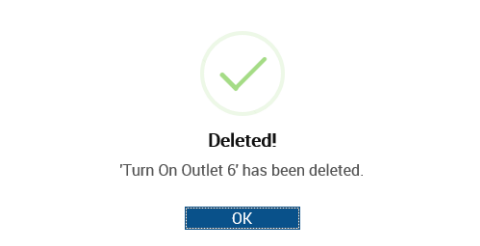

FIG. 70 Macro deleted
5. The system indicates when a macros has been deleted (FIG. 70) - click **OK** to return to the main Macros page.